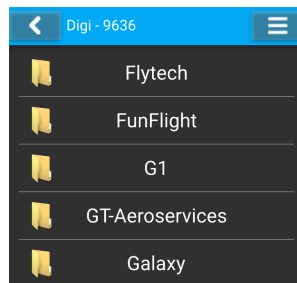

Figure 39: Some folders from the Screen OEM option. One or more folder levels may be used before correct *isb* file is found.
2. A list of folders and files will appear, see Figure 39 for an example.